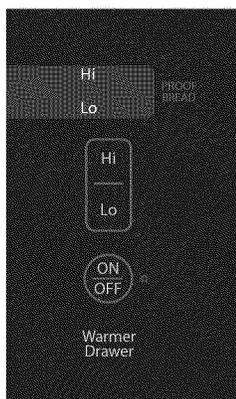

Fig. 28 Warmer Drawer control with temperature settings
1. Press the **warmer drawer** key. (Figure 28)The warmer drawer indicator light will turn on.